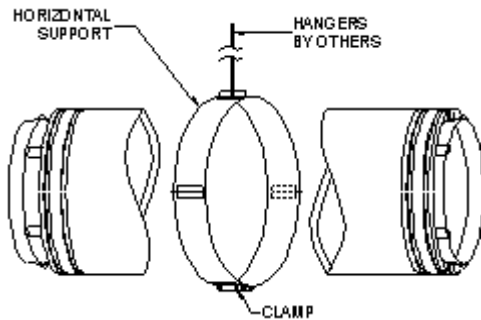

Figure 1
1. Remove the clamps and coupler band from the adapter, *figure 1*. The adapter must clamp onto the flue collar with no less than 1 inch overlap for proper fit. Mark or scribe flue collar prior to fitting the adapter, *figure 2*.
Saf-T Vent CI Plus must have supports for every six (6) feet of horizontal run and after every transition from vertical to horizontal. For large diameters, 24"-32" use parts numbered CCM24HZZS - CCM32HZZS. The support may be attached from the center bracket, figure 1 or attached to the side brackets, figure 2. Support hangers by themselves do not maintain the necessary clearances to combustible materials; be sure to consider clearances when planning the system. For 4" thru 24" diameters use support clamp part number 4627SS-42627SS and attach as appropriate.
Assemble the guy support to the vent sections as shown in the joint assembly instructions. Once the guy support is assembled to the vent sections, *figure 1*, install the 5" long coupler from the guy support so that it fits directly on top of the guy brackets. On the vent section below the guy support, attach the 8" long coupler so that it fits up to the bottom of the guy brackets, *figure 2*. The guy support is now totally enclosed with only the guy brackets protruding, *figure 3*. The guy lines can be attached before or after installation of the couplers.
APPLICATION 1. *Directly On Flat Roof (figures 1 & 2).*